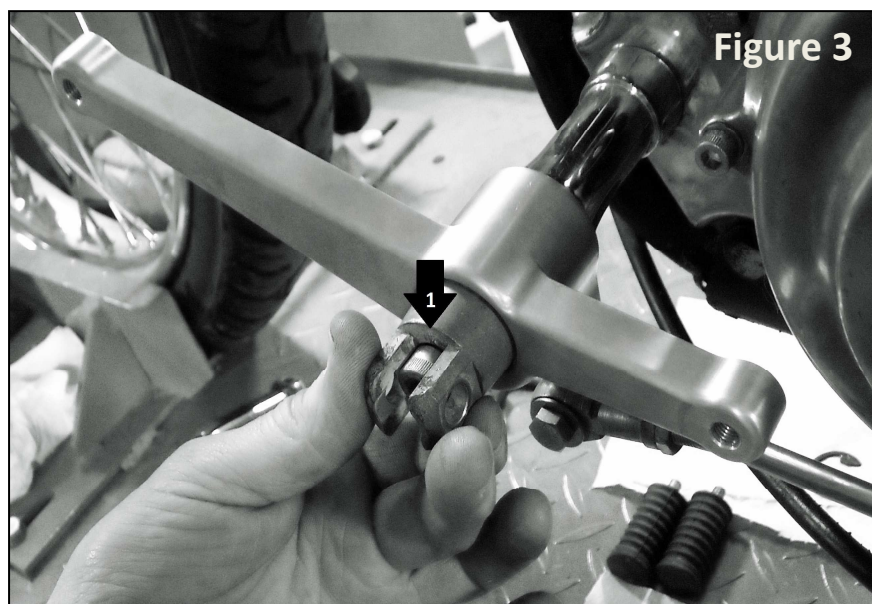

Figure 3
5. Insert the Clevis and Hex Head Screw (Figure 3 item 1) rotating to the location you prefer for your foot peg and tighten. After final test fit , be sure to use **Blue Loctite®** on the Hex Head Screw to help prevent it from loosening.